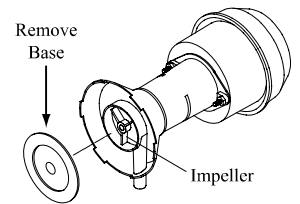

Fig. 8
- **Clean pump.** Cleaning the pump is necessary once a year at start-up. For your safety, turn unit off and unplug from power receptacle. Remove the pump from the mount slot. Remove the base of the pump as shown in Fig. 8. Clean the pump and turn the impeller to ensure free operation. Remove the pump spout and check for any blockage. After cleaning, reinstall the base onto the pump. Press firmly to make sure it is secure. Reattach the pump to the mount in the cooler using the plastic retainer to ensure that the pump will not overturn. Do not forget to replace the spout and water delivery tube onto the pump outlet.